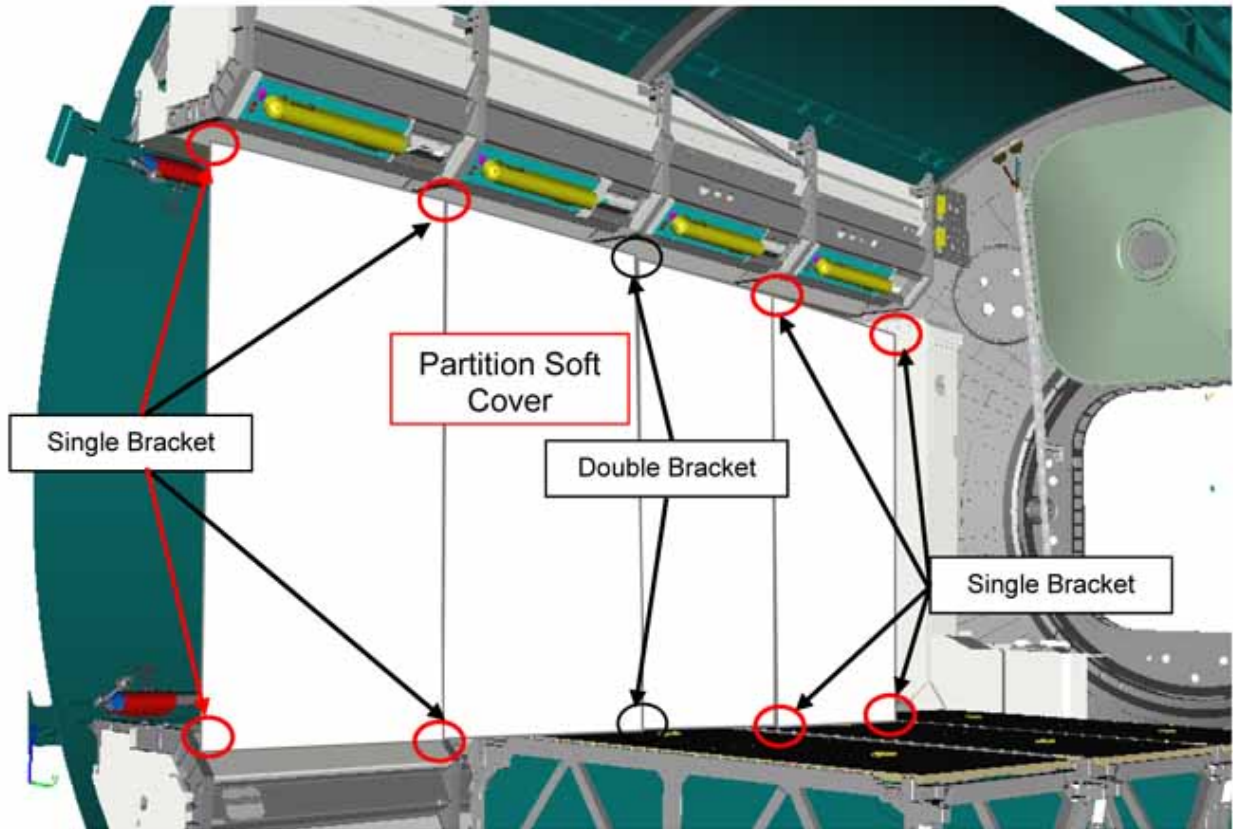

Figure 1. Location of Partition Soft Cover installation brackets on stand offs, typical
Refer to Figures 1 and 5.
- 2.3 Install Partition Soft Cover on the installation brackets, Pip Pins (4). Refer to Figures 1, 3 and 4.